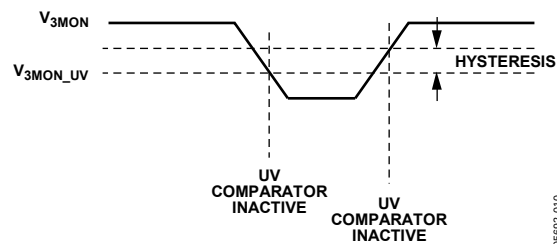
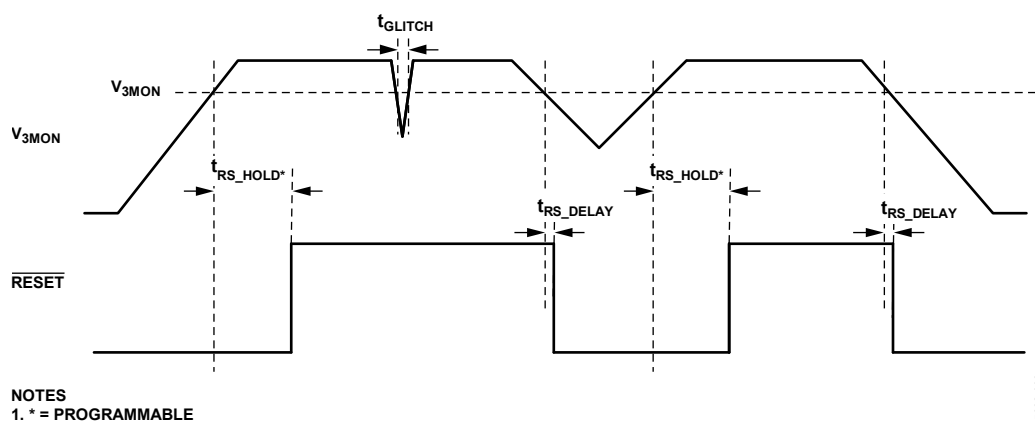

Figure 9. V_{3MON} Hysteresis
Figure 10. V_{3MON} , $\overline{RESET}$ Timing Diagrams
The V_{3MON} pin is monitored by a comparator to detect an undervoltage condition. It is designed with 1.5% hysteresis. When the V_{3MON} input drops below the programmed UV threshold, the comparator becomes active immediately, indicating that a UV condition has occurred. Due to hysteresis, the V_{3MON} input must be brought above the programmed UV threshold by 1.5% before the comparator becomes inactive, indicating that the UV condition has gone away (see Figure 9).
The V_{3MON} and $\overline{RESET}$ timing diagrams are shown in Figure 10. The range of thresholds is shown in Table 6 and the programming code for the selected threshold is found in Table 7. The default monitoring threshold is 2.93 V. The range of reset hold times is shown in Table 8 and the programming code of the selected timing is found in Table 9. The default $\overline{RESET}$ hold time is 200 ms.
- When the external monitoring processor cannot issue the necessary WDI signal and advanced WDI mode is selected (see Figure 10 and Figure 9)
- When $V_{3\text{MON}}$ drops below the threshold (see Figure 10)